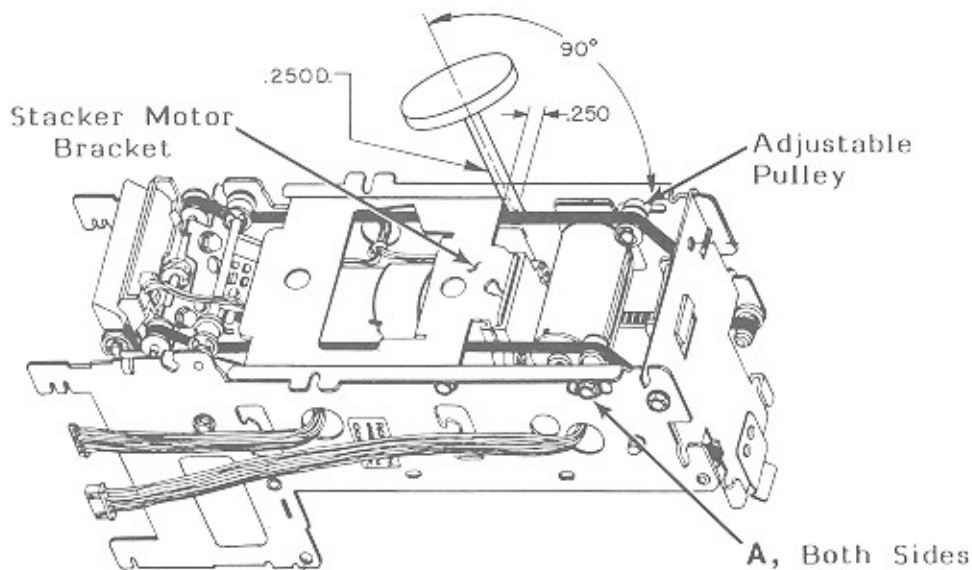

Figure 4-3. Timing Belt Tension Adjustment
Refer to figure 4-3 for adjustment locations and the precision adjustment illustration.
If this general adjustment procedure is not satisfactory, you may use the following precision adjustment procedure (refer to figure 4-3) :
3. If the tension is not correctly set, loosen the screw(s) (A) in figure 4-3